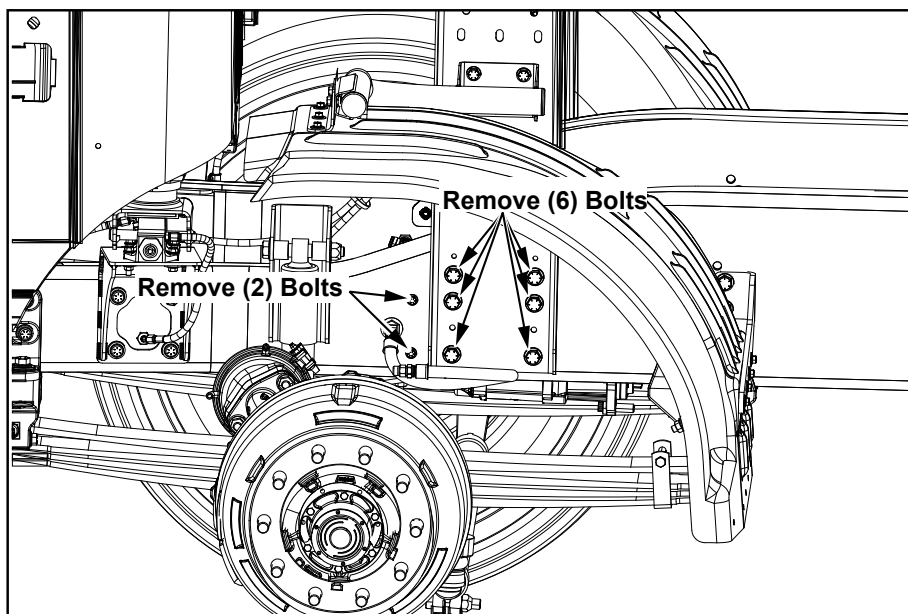

Figure 2, Left Side (Wheel Removed for Clarity)
4. Locate, remove and discard the 8 bolts and nuts as indicated (see *Figure 2*).